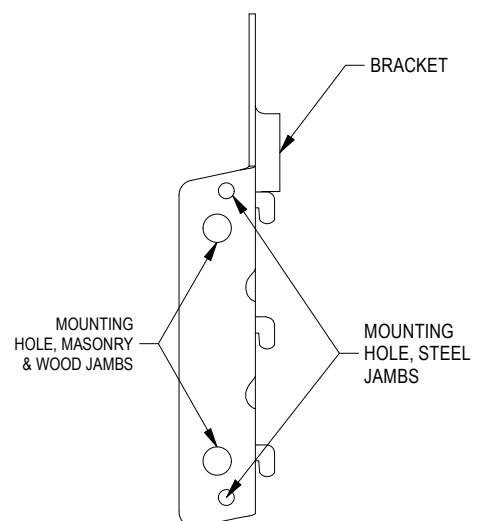

FIGURE 11:
- The appropriate fastener must be installed at each hole location in brackets and guides. See Figure 11.